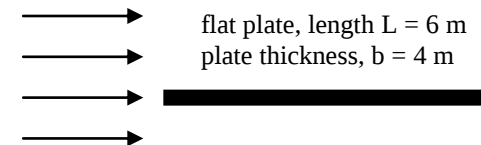

Figure S3
- A piece of flat plate located in a uniform flow $U = 0.5$ m / s as shown in Figure S3.